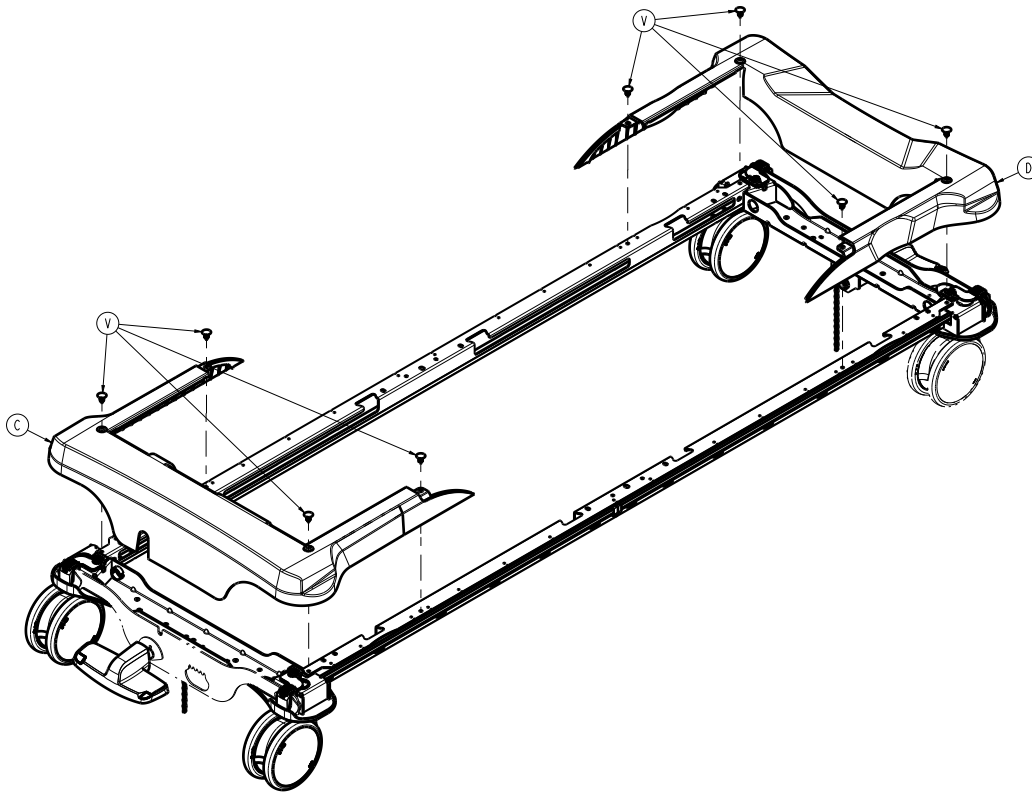

Figure 14 – Removing the covers
6. Using a slotted screwdriver and diagonal pliers, remove the eight retainers (V) that secure the head end (C) and foot end base covers (D) to the base frame (Figure 14). Discard the retainers. Remove the covers.